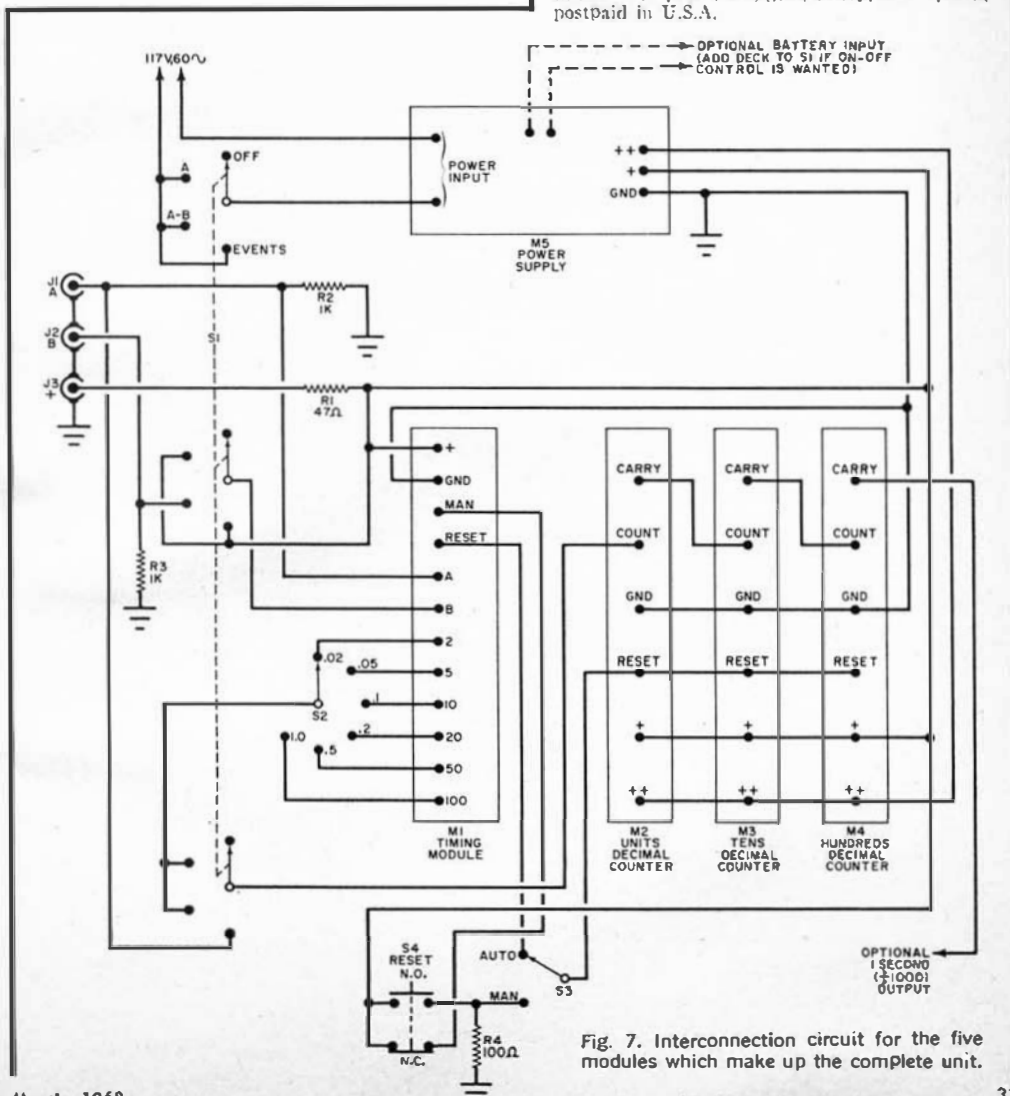

Fig. 7. Interconnection circuit for the five modules which make up the complete unit.
Overall Assembly. Figure 7 is the complete stopwatch interconnection schematic diagram. The overall assembly
Wire the various modules and switches together in accordance with Fig. 7. Use color-coded leads, and note that the deci-
*A few signal-conditioning circuits were shown in Fig. 7 of the "Counting Unit" article which appeared in the February 1968 issue. Figure 7(a) and (b) showed two approaches with mechanical switches, while Fig. 7(c) and (d) illustrated two methods of signal conditioning with sine-wave generators.
If desired, the optional one-second output line in Fig. 7 can be used to drive an external "seconds" counter. -50-